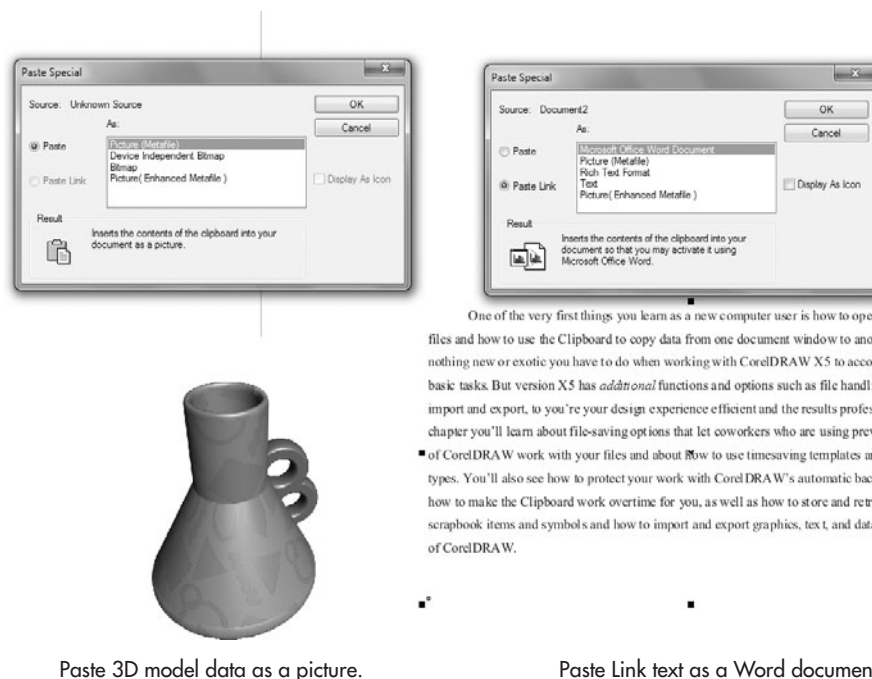

FIGURE 3-6 Paste Special is for data that cannot be imported as regular data, and for when you want to use an editor other than CorelDRAW.
- *When you want to update data you need to paste, especially with text.* By default, CorelDRAW's Paste Special dialog is set to Paste, not to Paste Link, and you really need to think *carefully* and read this section twice before choosing Paste Link and then clicking OK. Paste Link embeds, for example, a section of MS Word text that can be later edited using MS Word, and not CorelDRAW. The data you Paste Special and Paste Link falls into that fuzzy category of data that doesn't actually "belong" to the CorelDRAW document—the data requires both a valid link to its source, and that the application that was used to create the data is still installed on your computer a month from now when it's editing time. A linked pasted object is not directly editable in CorelDRAW, although it can be printed, moved, and scaled as an embedded object. To edit the object, you double-click it with the Pick Tool, and the program you used to generate this media pops up...and you can edit away. When you're finished editing, you save the document in the program, you can close it, and when you come back to CorelDRAW, the media has been updated. If you work extensively with CorelDRAW and a word processor, and your client requests revisions as often as leaves fall from a tree, the Link Paste Special feature can be a charm. However, if you don't save documents regularly or uninstall programs frequently, do not use the link feature. The next time you open the document, the link might not be linked, and there goes part of your design. Figure 3-6 shows the Paste Special dialog and the different options on the list when (at left) a 3D model has been copied to the Clipboard, and when (at right) a word-processing document has been copied.